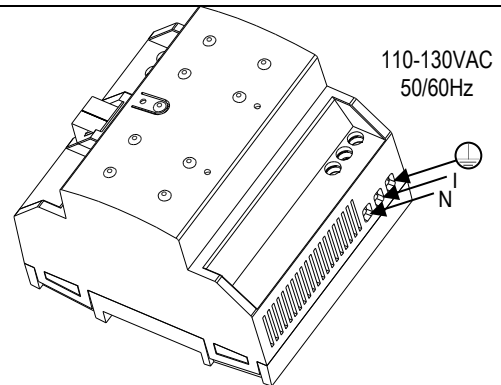

Figure 2: ZPS320HIC110 installation and connection
- Main power must be connected to L, N and ground terminals, in accordance with the schematic represented in figure 2.